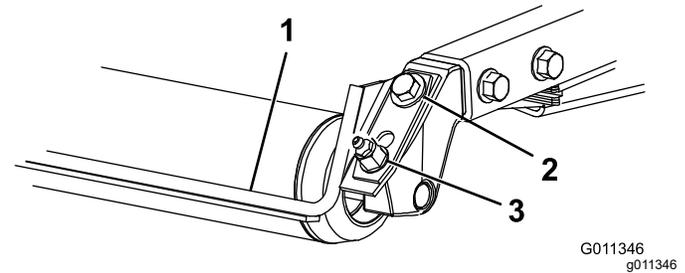

Figure 19
- Loosen the grease fitting and the mounting screw (Figure 19).